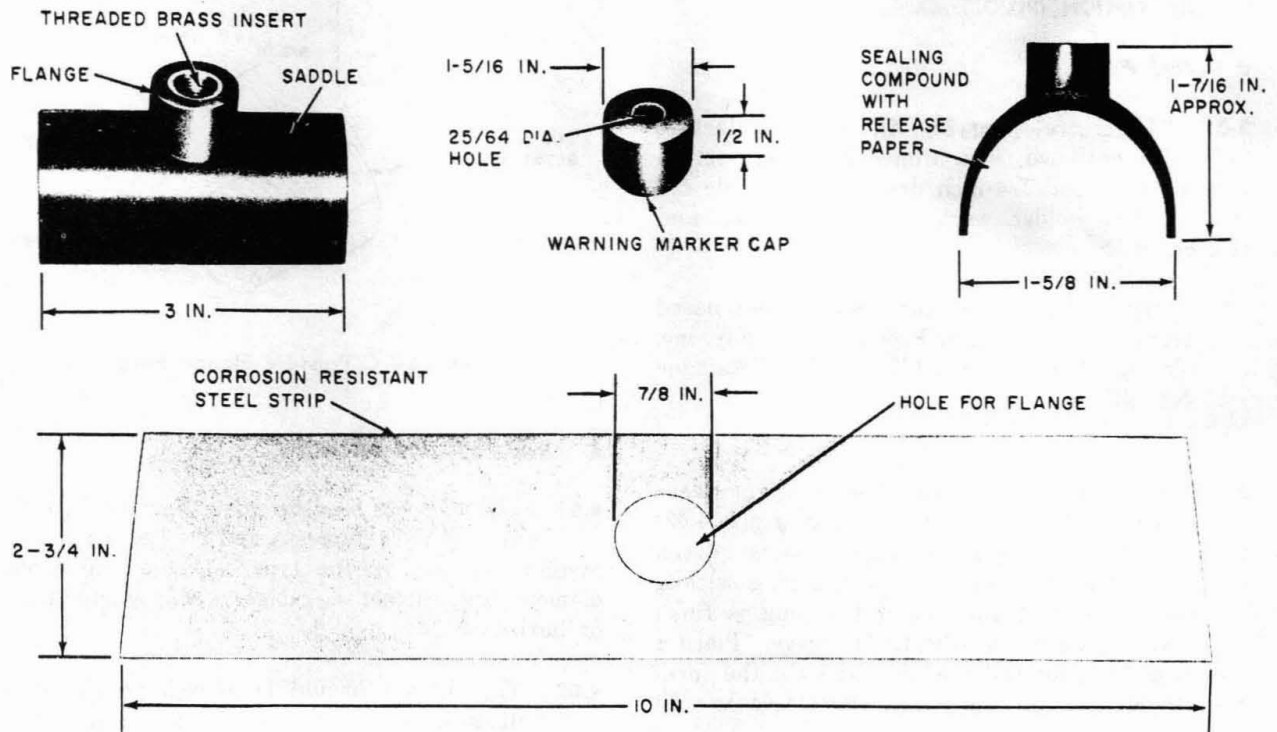

Fig. 2—F Pressure Flange
2.02 The F pressure flange (Fig. 2) consists of the following: